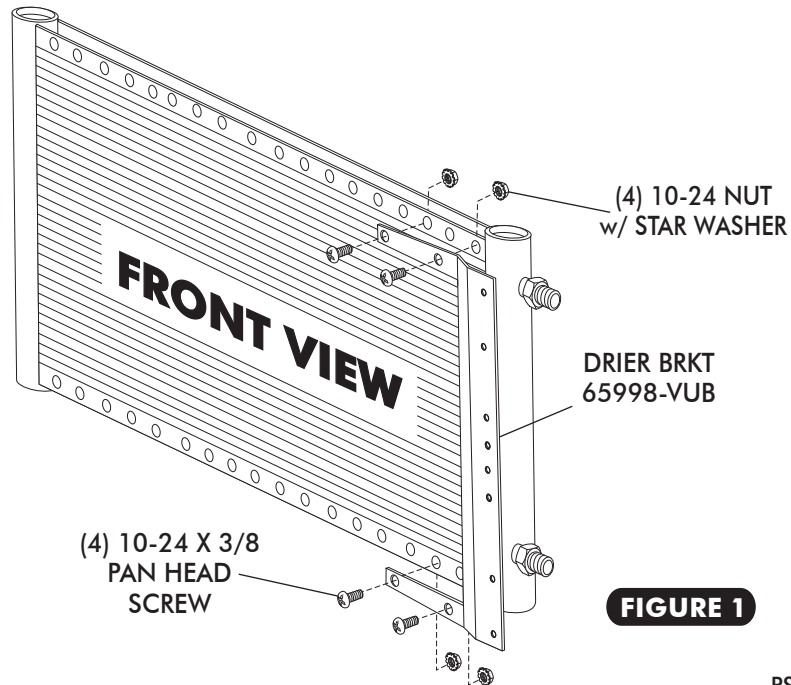

FIGURE 1
- INSTALL DRIER MOUNTING BRACKET ON TO CONDENSER USING (4) 10-24 X 3/8 PAN HEAD SCREWS AND (4) 10-24 NUTS WITH STAR WASHERS. SEE FIGURE 1 BELOW. **NOTE: BRACKETS MOUNT THROUGH THE FIRST AND THIRD HOLE IN THE CONDENSER.**